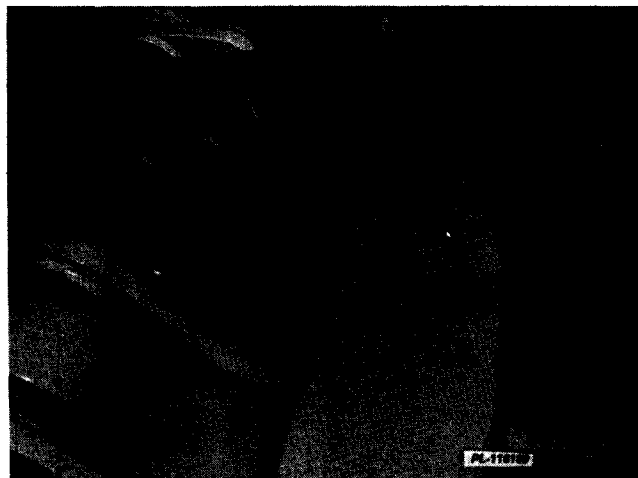

Figure 9-14
Position lever (14) at 90° to side of frame. Refer to Fig. 9-14. Line up both capscrew mounting holes (17 and 21) with the edge of the square.